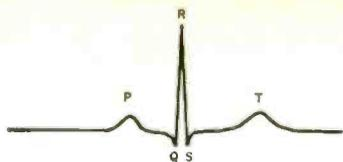

Fig. 3. Typical electrocardiogram wave.
A characteristic ECG waveform is shown in Fig. 3. The P, R, and T waves correspond to electrical events within the heart. The ECG waveform repeats itself during each cycle of heart activity. Typically, this is 60-80 times/minute, or about once a second. Since parts of this cardiac waveform have voltage variations on the order of one hertz or less, the ECG amplifier must
**Counting Heart Beats.** The heart-rate meter counts the R waves of the ECG pattern. (The R waves are greater in amplitude than the P or T waves as shown in Fig. 3.) This instrument is basically a frequency meter designed to respond to pulse rates of 0 to 5 pulses/second. This corresponds to heart rates of up to 300 beats/minute (BPM) for which the meter scale is calibrated accordingly.